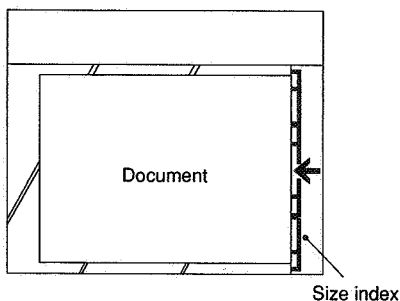

Figure 1-5
- Place the document so that its center is at ← on the size index (Figure 1-5); then, close the copyboard cover.